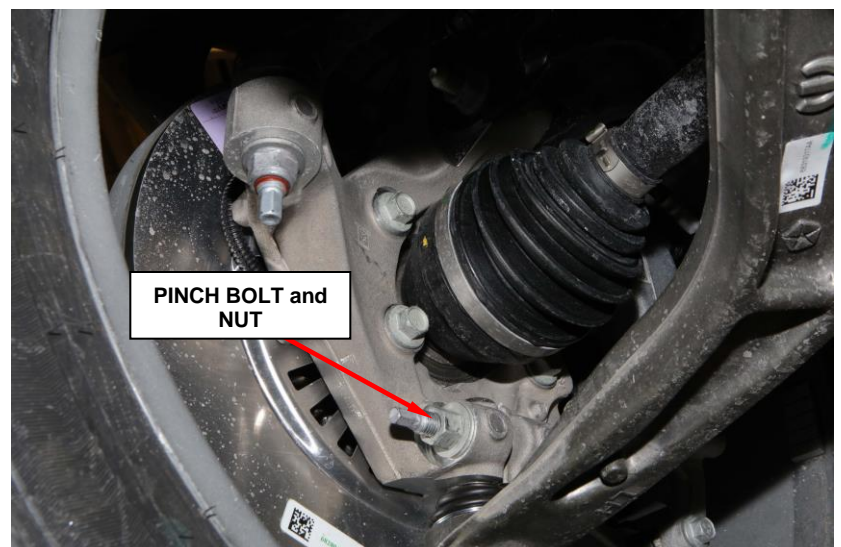

Figure 3 – Pinch Bolt
3. Remove and **DISCARD** the lower ball joint pinch bolt and nut (Figure 3).